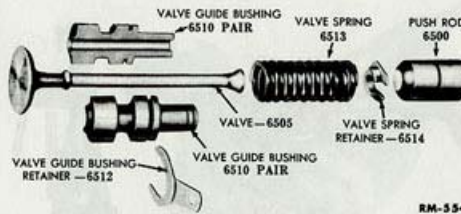

Fig. 34—Valve Assembly, Disassembled
b. **Valve Push Rods.** Clean the push rods thoroughly. Replace push rods (fig. 34) if the diameter is worn to less than 0.998 inch, or if they are scored or cracked. Cast type push rods showing wear on the ends may be resurfaced at either, or both, ends. Pressed steel type push rods may be resurfaced at the bottom end only. Replace any push rods that are less than 1.710 inches long after resurfacing.
c. **Valves, Guides, and Springs.** Hold the valve assembly in the hand and compress the valve spring as shown in figure 35. Lift one-half of the valve guide bushing from the assembly. Remove the other half of the valve guide bushing and the spring and spring retainer (fig. 34). Keep the two halves of each valve guide together in pairs. Scrape the carbon off the valve heads and stems. Clean the valves, springs, and valve guide bushings.